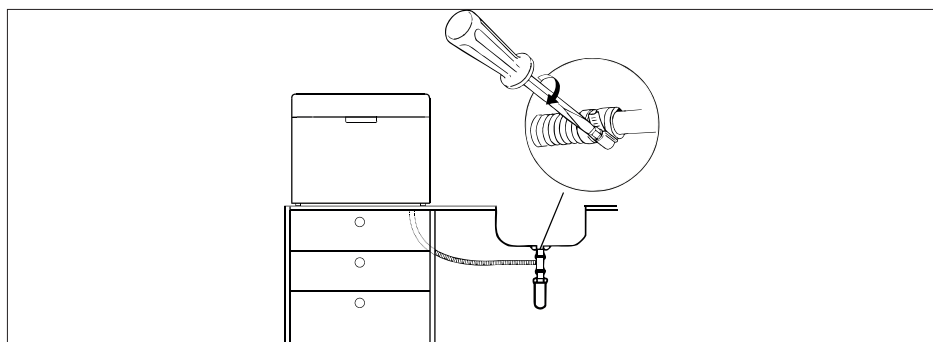

Fig. 7
- Secure the hose end so that the hose cannot slip (see **Fig. 7**).